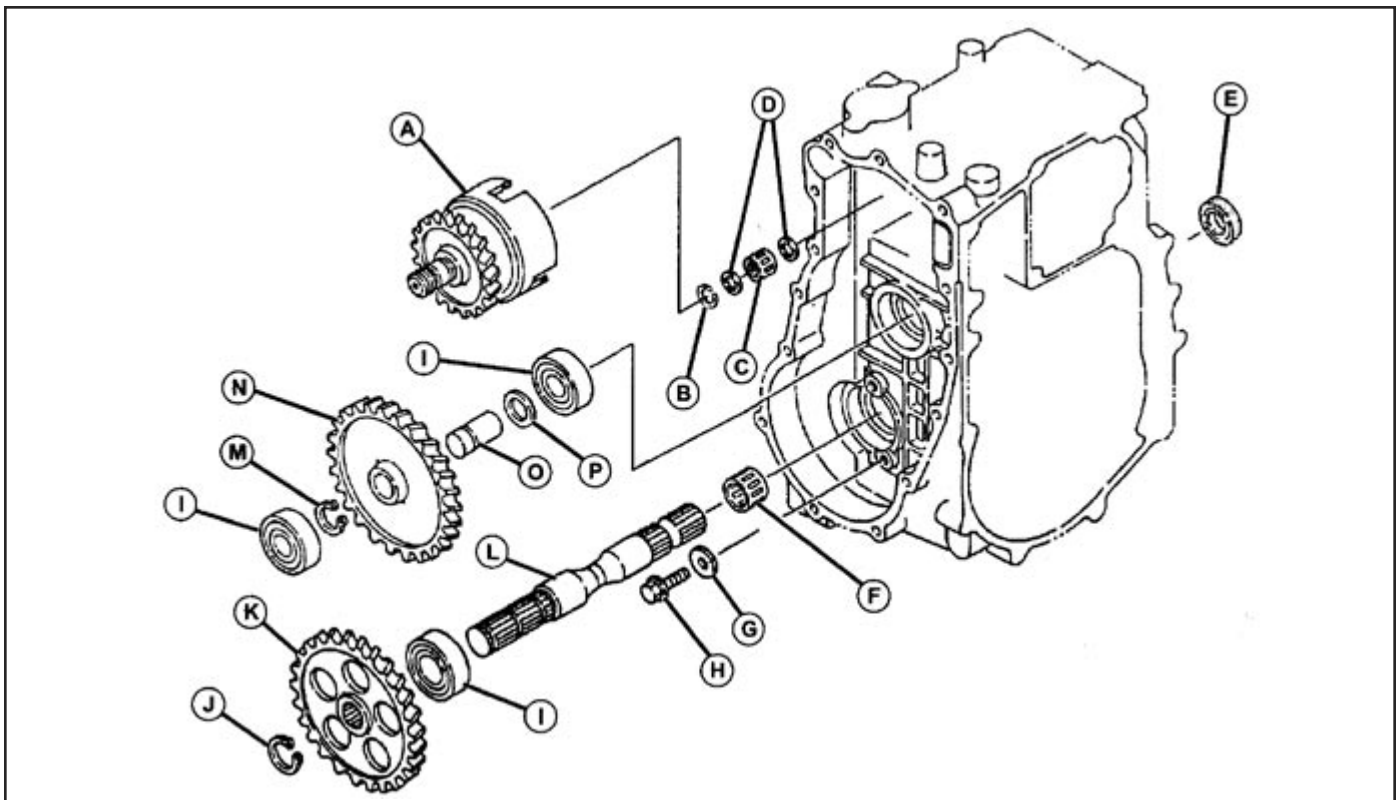

Fig. 20, PTO Drive Train (Mid-PTO) Disassembly
1. If replaced, install new needle bearing (F) from inside case with bearing identification marks toward the inside of the case. Push bearing tight against shoulder in bore. (Fig. 20)
2. Install new seal (E) with the open, spring side towards the inside of the case. (Fig. 20)
4. Install mid-mount PTO gear (K) so side with the longer center hub is towards bearing. (Fig. 20)
7. Left axle must be removed to remove PTO output shaft assembly (R), (Fig. 20). Inspect ball bearings and needle bearings for smooth rotation.